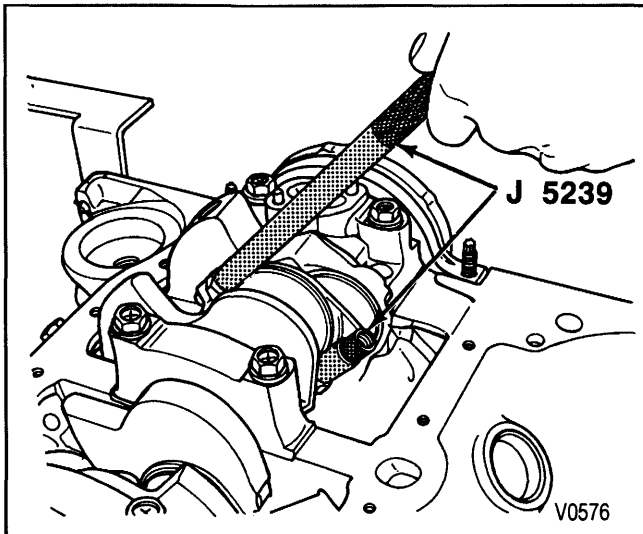
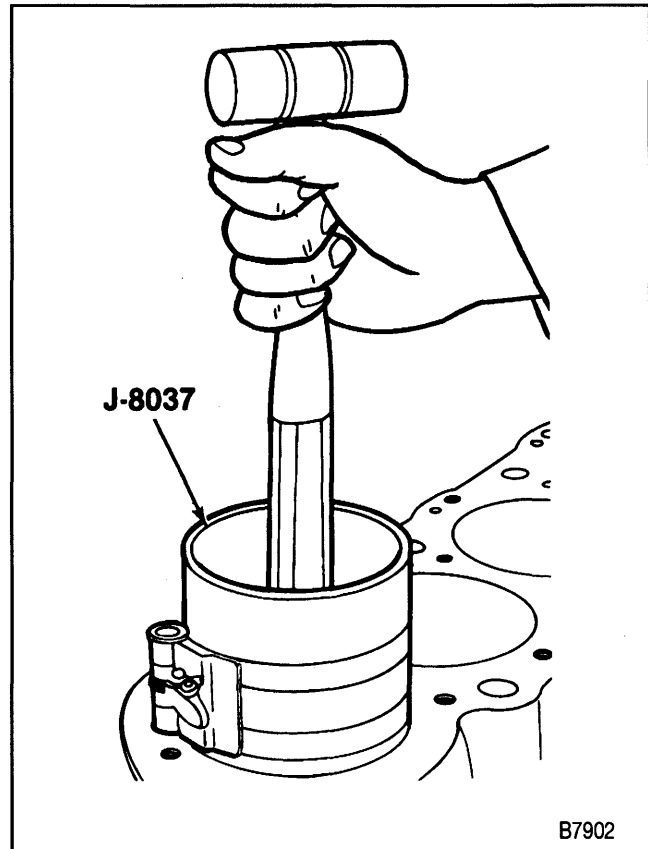

Figure 42—Guiding the Connecting Rod
Figure 44—Installing the Piston
Remove or Disconnect (Figure 42)
- Attach J 5239 to the connecting rod bolts (figure 42).
Install or Connect (Figures 42 through 45)
- D. Without disturbing the ring end gap location, install J 8037 over the piston (figure 44).
- F. Place the piston in its matching bore. The connecting rod bearing tang slots must be on the side opposite the camshaft. Using light blows with a hammer handle, tap the piston down into its bore (figure 44). At the same time, from beneath the vehicle guide the connecting rod to the crankpin with J 5239 (figure 42). Hold the ring compressor against the block until all rings have entered the cylinder bore.